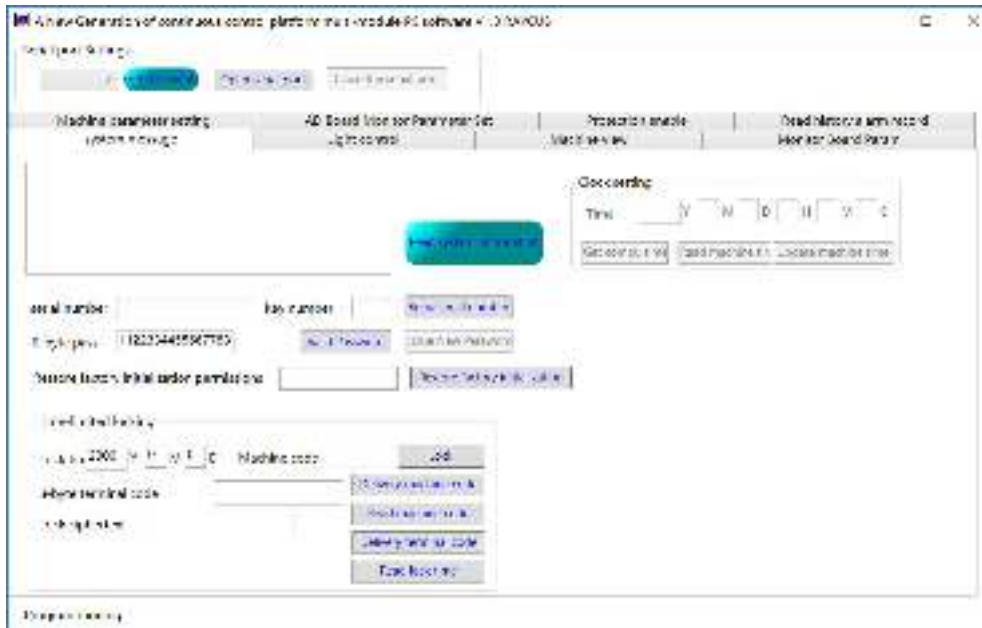

Figure 16 Interface 1 of the RAYCUS laser client control software.
- (1) The power wiring and control wiring are connected correctly, and the voltage meets product requirements.
- (2) Ensure the laser emission button on the front panel is released and the level of sixth pin "LAS\_C" of "INTERFACE" port on the rear panel is low.
- (3) Status of Interlock is correct..
- (4) Make sure that the water cooling system is connected. The water cooler starts to work, and the temperature of the water is at the proper working temperature (about 25°C). Check whether there is any leakage issues within entire water cooling system and the joints.
- (5) Turn the key to “ON” position, and power on the laser, then the green LED will illumine. Double click the RAYCUS laser client control software, then the following interface can be seen in Figure 16.